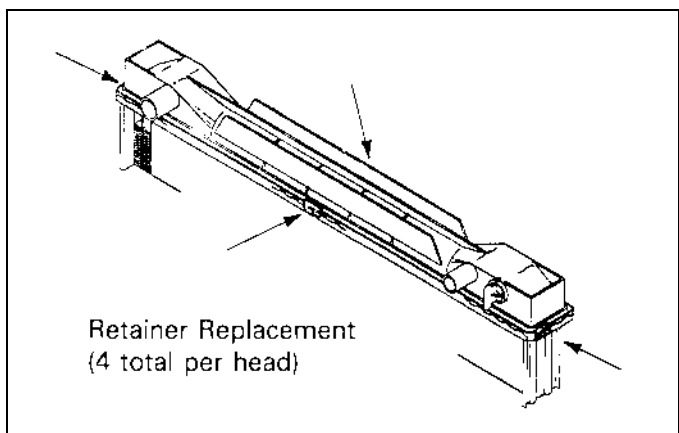
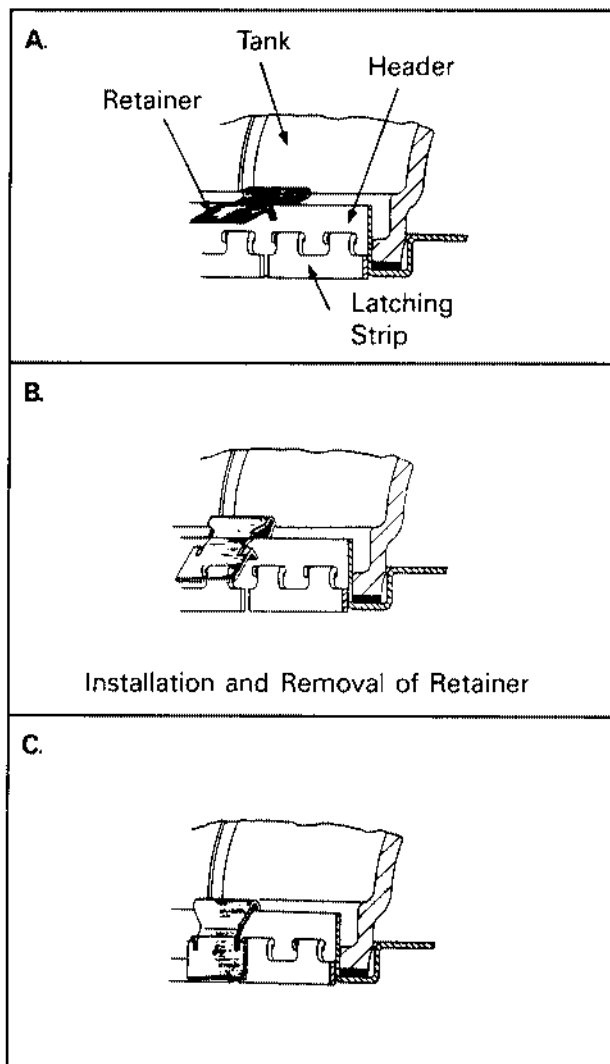

Figure 12-29
Figure 12-30
If the radiator is equipped with the sidelock latching strips as shown in Figure 12-25B, the retainers as shown in Figures 12-29 and 12-30 must be removed first. To remove the retainer, pry outward on the bottom to disengage the retainer teeth from the header slot then pull the retainer upward as shown in Figure 12-30. If strips are retained with wire rings, cut ring and remove. After the retainers are removed, the side lock latching strips are removed by tapping the strip to the left with a screwdriver and hammer until the tabs of the strip can easily be pulled out of the header slots—6 strips and 4 retainers per header. Discard the old strips and retainers.
7. Lock the latching strips in place with retainers. Install 1 retainer between the 21- tab latching strip and the 20-tab latching strip (2 per header), and 1 retainer at each 3-tab latching strip (2 per header) as shown in Figure 26 When installing the retainers, hook the top of the retainer over the header flange, then pull down as shown in Figure 12-30.